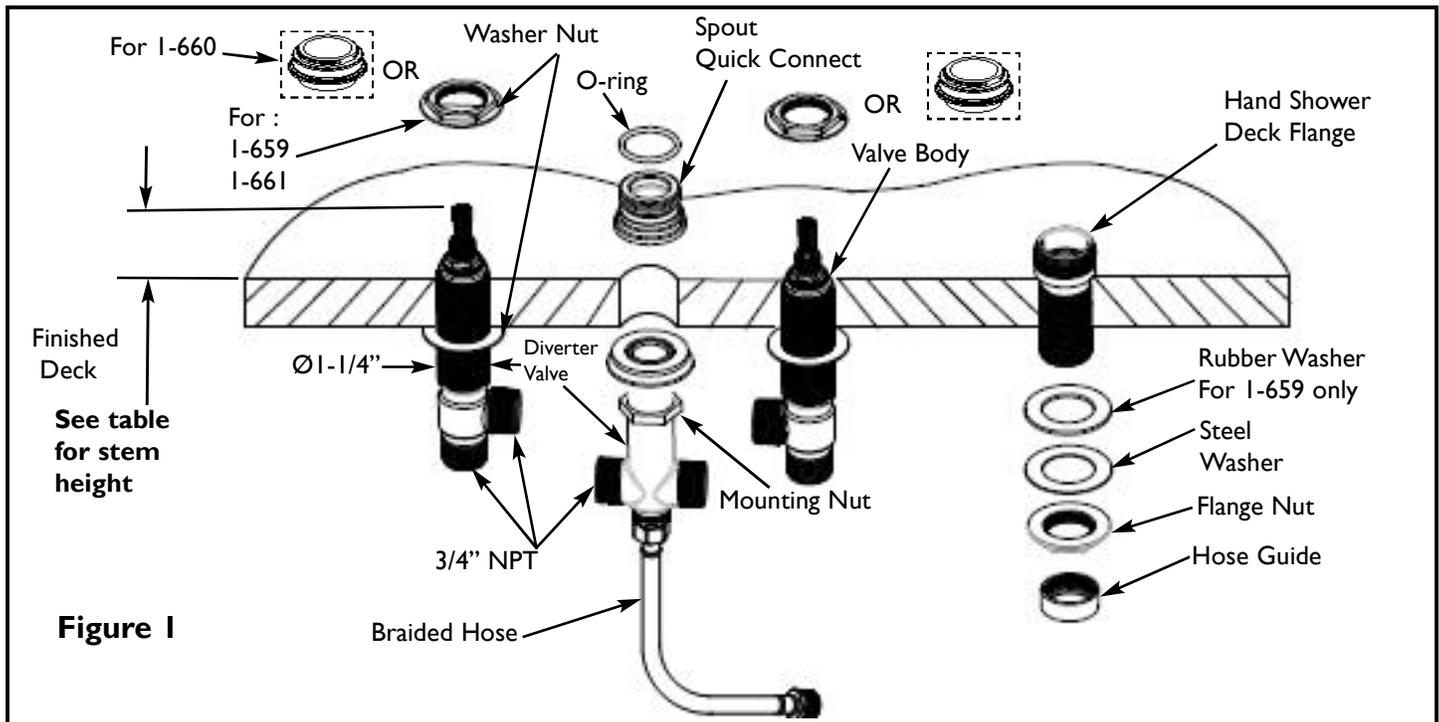

Figure 1
1. Install the spout quick connect shank through appropriate hole of mounting surface. Ensure the Spout Quick Connect hard tighten and bottoms out against the Diverter Valve before tightening the Mounting Nut. See **Fig. 1**
3. Adjust stem height from finished deck per **Table 1** and secure into place with applicable upper washer nut. See **Fig. 1**.